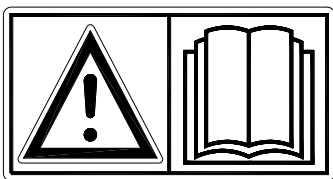

Fig. 1
**Read and understand** (Fig. 1) the manual before beginning to use the Verti-Drain®.